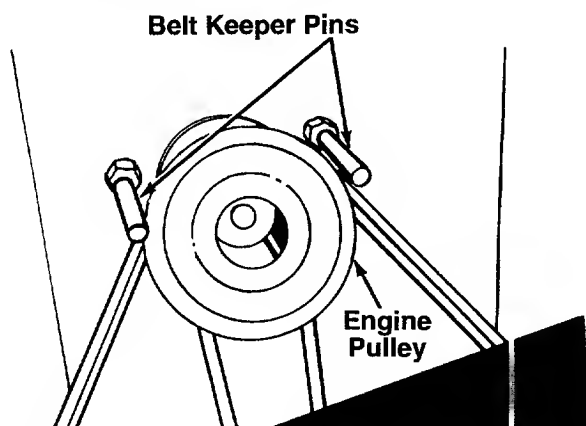

FIGURE 23.
**NOTE:** Figures 23, 25 and 26 are shown with the unit tipped up for clarity. It is not necessary to tip the unit to remove the belts.
2. Remove the belt keeper pins from the engine pulley belt guard. See figure 23.
3. Remove the belt keeper pins from the engine pulley belt guard. See figure 23.